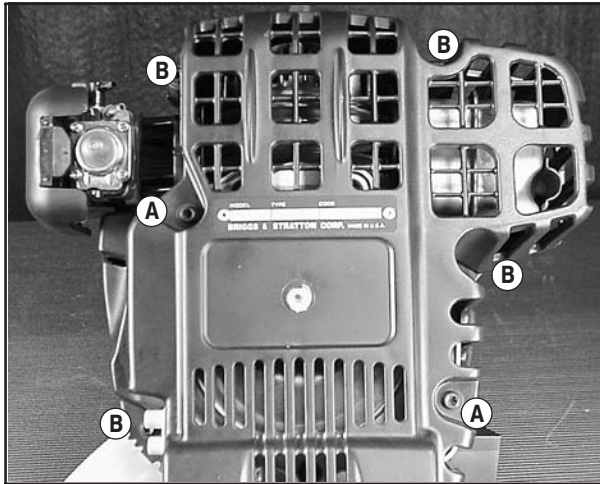

Fig. 8
- Remove 2 machine screws (A) and 4 self threading screws (B) from cylinder shield side, Fig. 8.